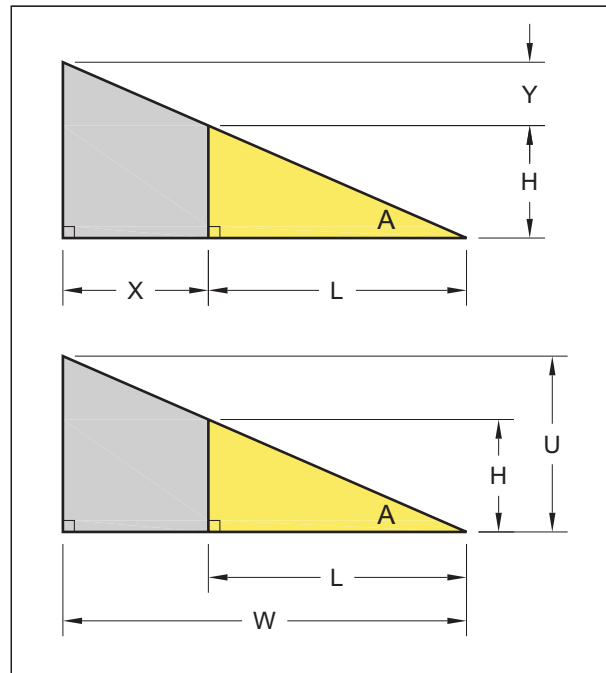

Figure 53-19
*Figure 53-19* shows the same two triangles in a simplified way. In the upper part, the values *X* and *Y* are sums of the extensions (clearances) from the previous example: